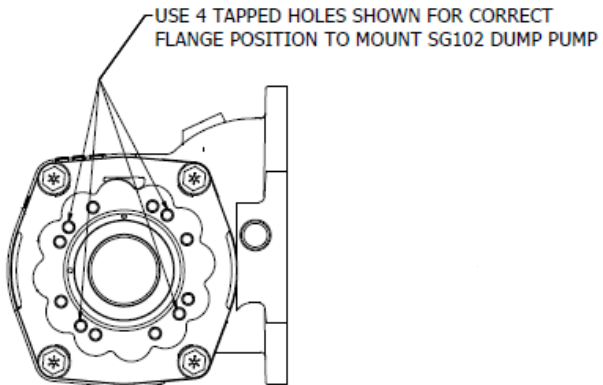

Figure 2 – 280 PTO Prior to Mounting RK Flange
- For proper pump orientation with pump support brackets, use holes shown in *Figure 2* on the output of the PTO.